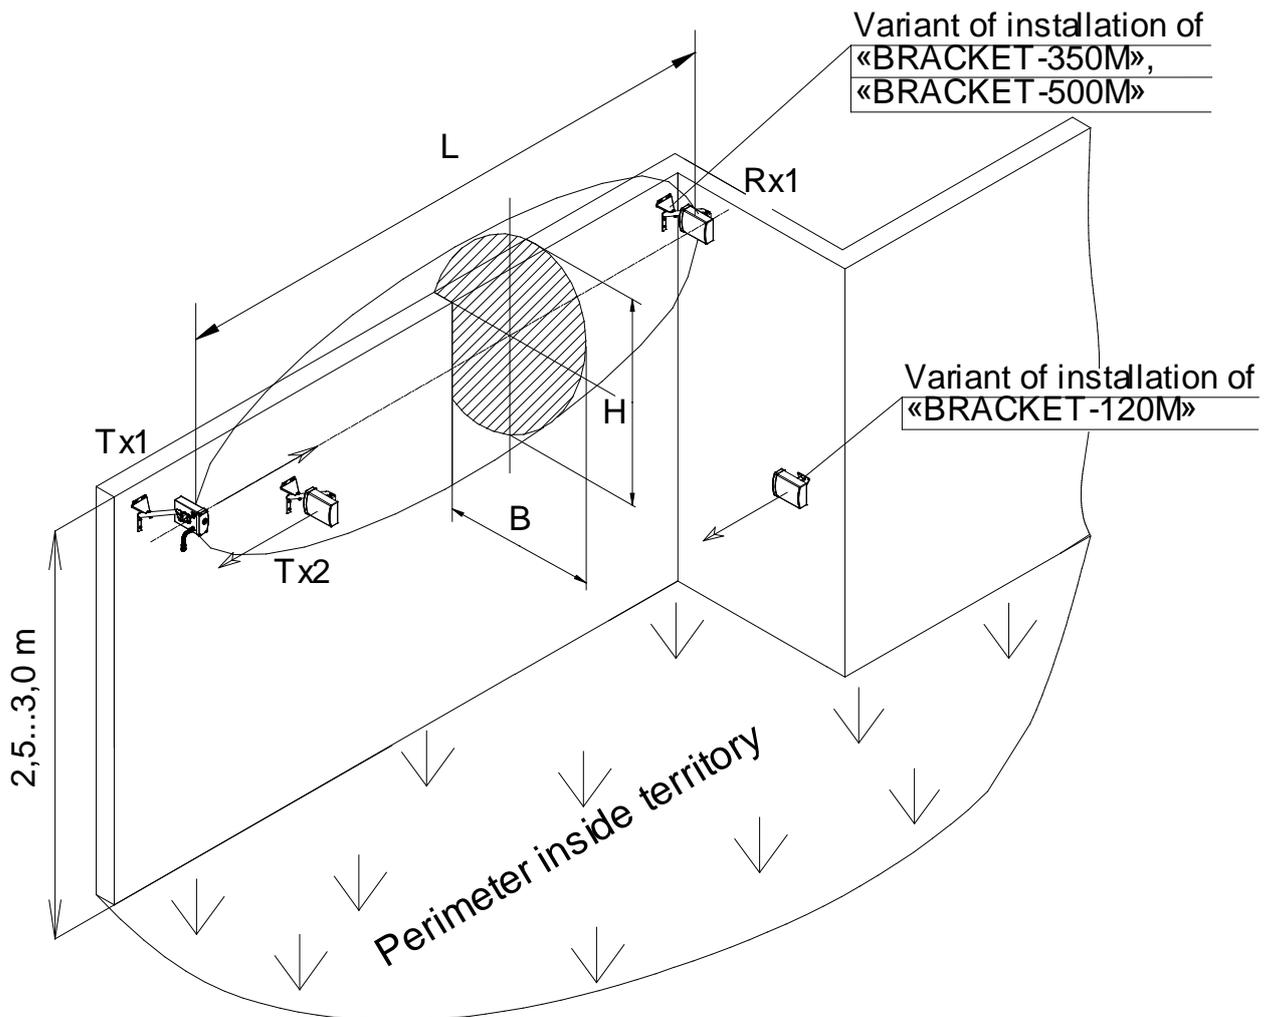

Figure 2.9 – Examples of installation of the sensors using the outboard brackets BRACKET-500M, BRACKET-350M, BRACKET-120M
2.3.6.4 The examples of installation of the sensors using the outboard brackets BRACKET-500M, BRACKET-350M, BRACKET-120M are given in Figure 2.9.